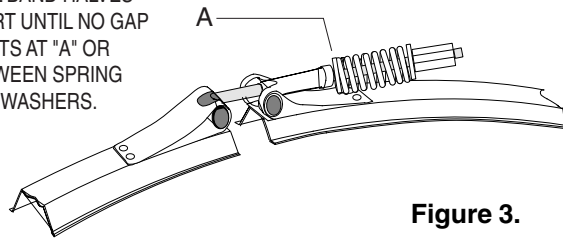

Figure 3.
14. Thread shank of nut onto T-bolt - 2 turns minimum. If end of T-bolt does not protrude through trunnion far enough to engage shank of nut, make sure that first spring assembly is tight against trunnion per Figure 3, and band is tight against tank.